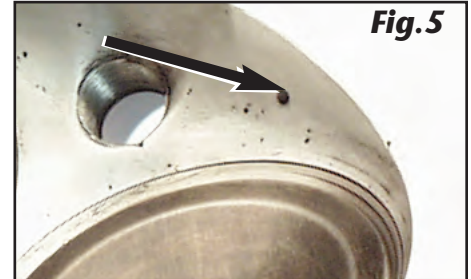

Fig.5
- Using the existing drill point at the bottom of the first drilled hole as a pilot, slowly drill a 1/16" hole through the wall into the combustion chamber (Fig.5). Be careful not to break the 1/16" drill bit off in the head.